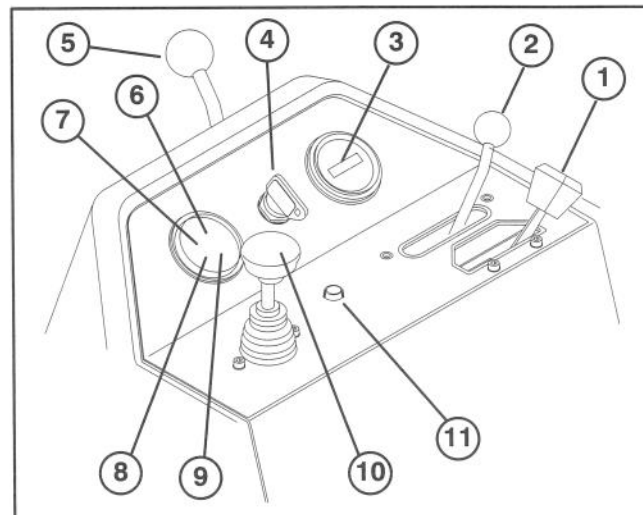

Figure 20
Throttle Control (Fig. 20) – The Throttle Control gives the operator the ability to control the speed of the engine. Moving the Throttle Control toward the “FAST” position increases engine RPM; moving Throttle Control toward “SLOW” will decrease engine RPM.
Functional Control Lever (Fig.20) – Provides two (2) traction selections, plus a “NEUTRAL” position. It is permissible to shift from mow to transport or transport to mow (not to neutral) while the Greensmaster 3200–D is in motion. No damage will result.
Hour Meter (Fig.20) – Indicates the total hours of machine operation. The hour meter starts to function whenever the key switch is rotated to “ON”.
Ignition Switch (Fig. 20) – Insert key into switch, turn clockwise as far as possible to “START” position to start engine. Release key as soon as engine starts; key will move to “ON” position. Turn key counter–clockwise to “OFF” position to stop engine.
Steering Arm Locking Lever (Fig.20) – Rotate lever rearward to loosen adjustment, raise or lower steering arm for operator comfort, then, rotate lever forward to tighten adjustment.
Water Temperature Light (Fig. 20) — Light glows and engine automatically shuts–down when engine coolant temperature gets too high.
High Temperature Override Button (Fig. 20) —If engine kills due to an over heat condition, press over ride button in and hold until machine can be moved to a safe location and allowed to cool down.
Glow Plug Indicator Light (Fig. 20) – When lit, indicates glow plugs are on.
Battery Warning Light (Fig. 20) – Light glows if battery charge is low.
Oil Pressure Light (Fig. 20) — Light glows if engine oil pressure drops below a safe level.
Raise / Lower – Mow Control (Fig 20) – Moving control forward, during operation, lowers the cutting units and starts the reels. Pull back on control to stop reels and raise cutting units. During operation reels can be stopped by pulling back on control momentarily and releasing. Restart reels by moving control forward.